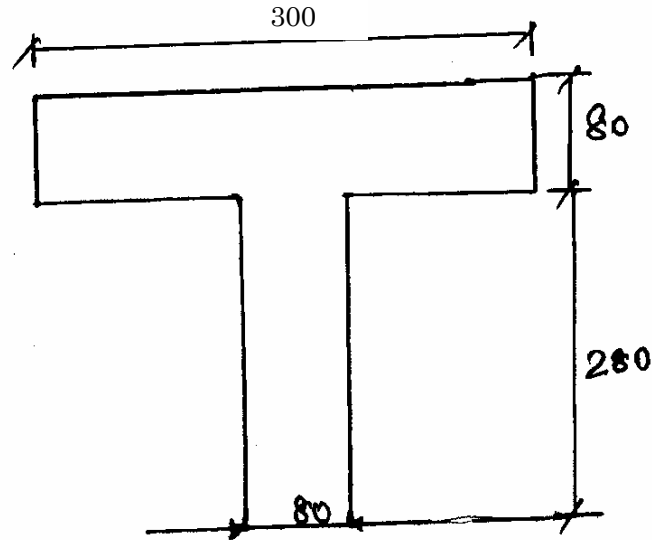

Fig. 5.
- (ii) Find the polar moment of inertia of a T section shown in Fig. 5. about an axis passing through its centroid. Also find the radius of gyration with respect to the polar axis. (Dimensions in mm)